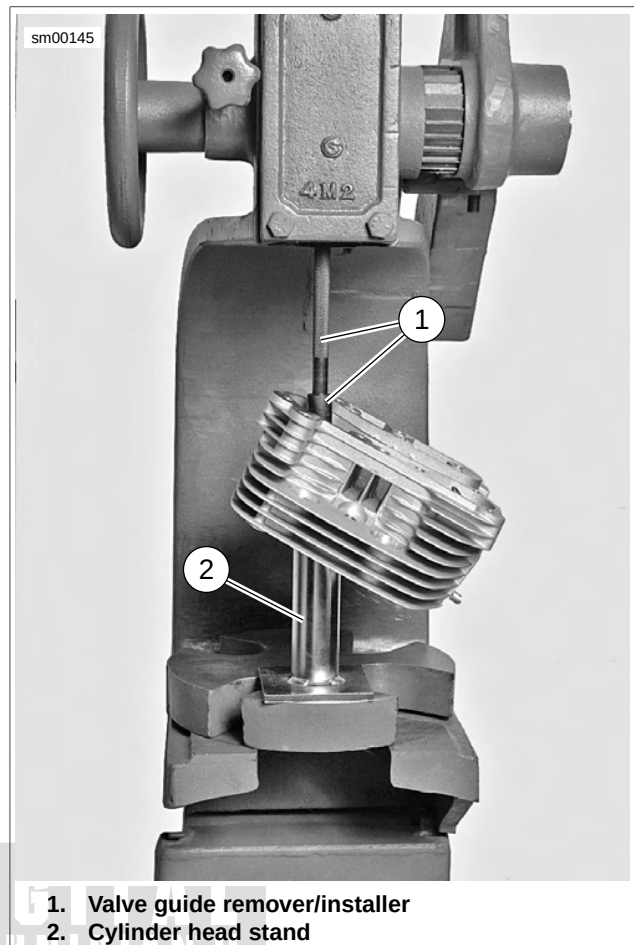

Figure 3-57. Installing Shoulderless Valve Guide
- See Figure 3-57. Install shoulderless guides using VALVE GUIDE REMOVER/INSTALLER (Part No. B-45524-A). Press or drive guide until the tool touches the machined surface surrounding the guide. At this point, the correct guide height has been reached.